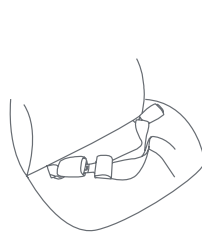

Fig. 46-1
- Buckle the seat belt being careful that the seat belt is not twisted and is securely latched into the appropriate buckle, and not the adjacent buckle (Fig. 46-1).
- Proper installation of the Safety Seat or Base requires that the seat belt be very tight. To tighten the seat belt, push down hard with your knee or hand on the Safety Seat or Base while pulling and tightening the seat belt. **Check that there is no slack in the seat belt on either side of the Safety Seat or Base, or anywhere along the path of the belt, and that the seat belt is tight from end to end.** (Fig. 46-1 and 46-3). Adjust handle to the correct position seen below in (Fig. 45-2).